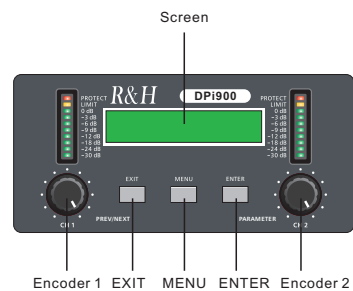

Figure A.3 / A.4
- 4.Turn down your mixer master faders. Plug the power cord into the amplifier and then into an AC outlet. Turn on the front-panel power switch. The LCD Control Screen will light up (Figure A.3). Turn down (CCW) both Encoder knobs (Level controls) to maximum attenuation.
- 5.Play a program through your mixer. Set its level to peak at 0 dB or 0 VU maximum on the mixer meters. Gradually turn up (CW) the amplifier Encoder knobs (Level controls) to the desired volume (Figure A.3).
2. Turn on the amplifier power switch on the front panel. The LCD Control Screen will light up (Figure A.3).